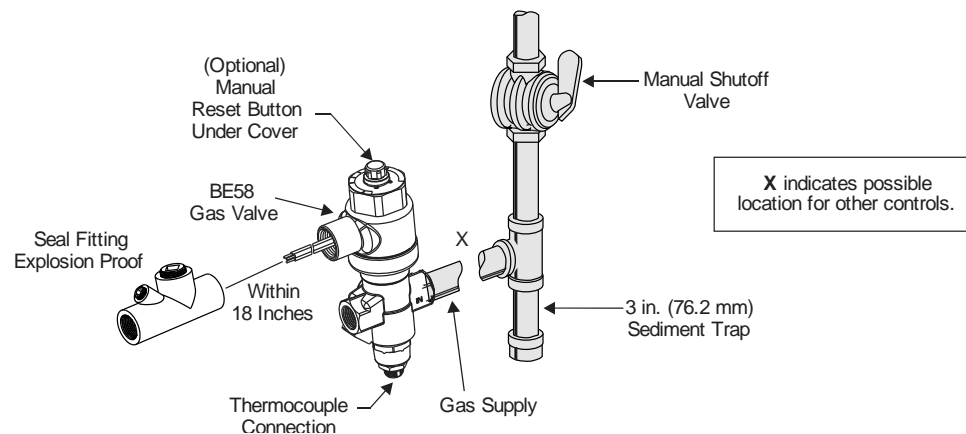

Figure 3: Typical BE58 Installation
6. Mount the valve to the pipework. The BE58 valve may be mounted in any convenient position. Use an approved pipe joint sealing compound on male threads before assembling. Remove excess compound after mounting the valve to the pipework. Threads of the pipe and nipples must be smooth and free of tears and burrs. Steam clean all piping to remove foreign substances such as cutting oil or thread chips. A sediment trap should also be installed in accordance with the National Fuel Gas Code (Z223.1/NFPA 54). See Figure 3.